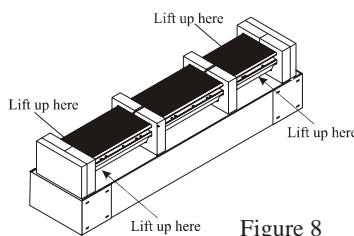

Figure 8
- Lift up on the rear of the Loudspeaker System, near the foam packing material at both ends. Place the entire assembly (Loudspeaker System, Loudspeaker Grille, On-Wall mounting brackets and foam packing material) next to the bottom shipping carton on a flat surface. Refer to figure 8.